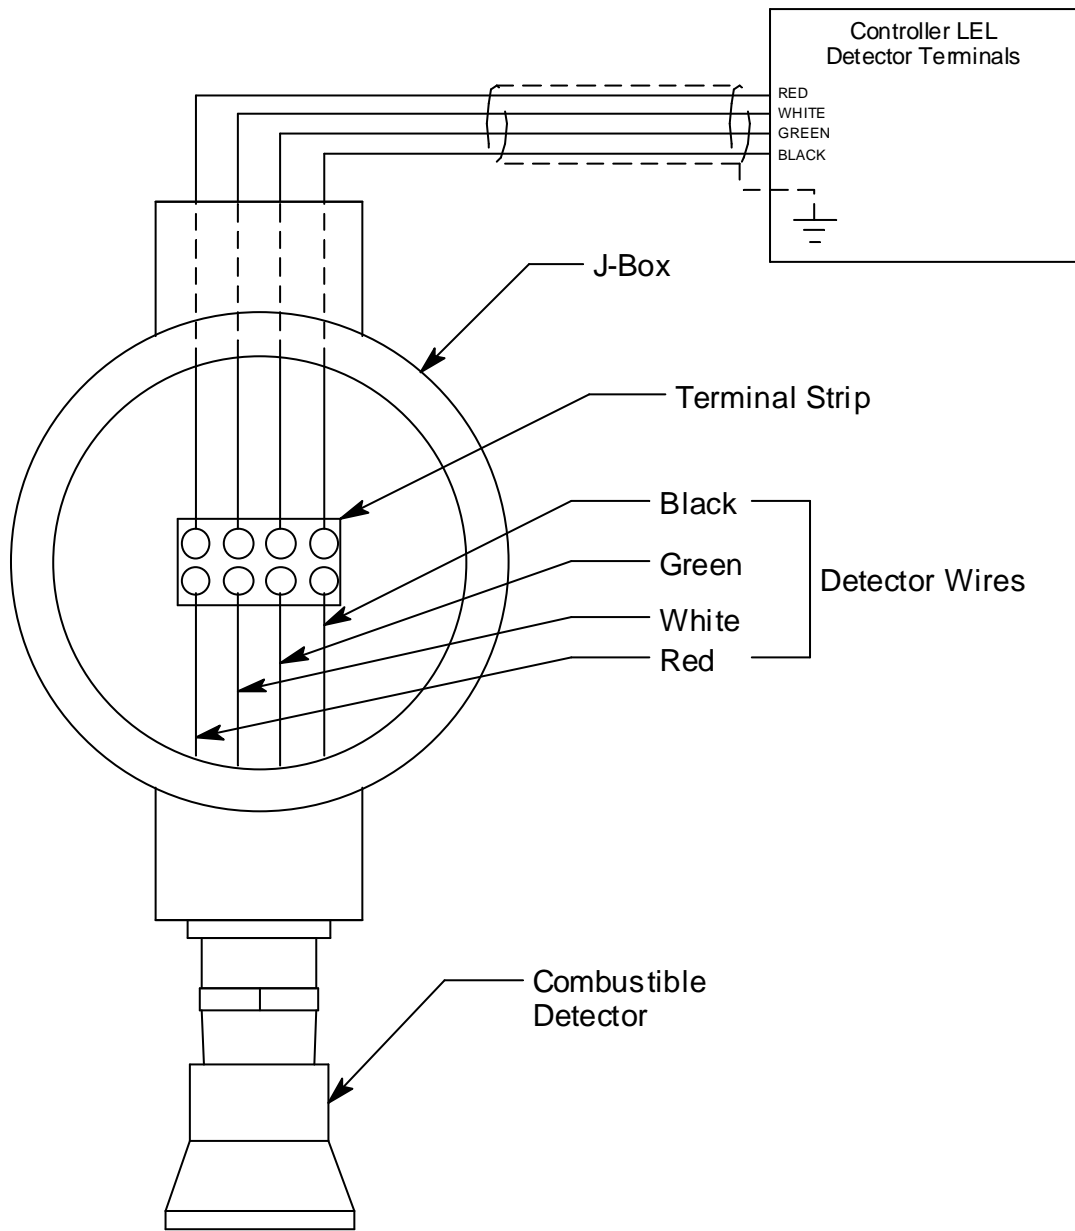

Figure 3: Wiring the Combustible Gas Detector to a Controller
If the detector is mounted directly to a controller, it is normally factory wired. Confirm that the detector's wires are connected to the appropriate controller detector terminals and skip to "Start Up" on page 6. See Figure 3, the controller operator's manual, and the controller's detector head specification sheet for the 61-0140RK detector for the wiring connections.
7. If the detector is installed directly on a controller, connect the detector leads to the appropriate detector terminal strip terminals. See Figure 3 for wiring to a generic controller. See the controller operator's manual and the controller's detector head specification sheet for the 61-0140RK detector for wiring specific to your controller.
If the detector is installed remotely from a controller in a junction box, connect the detector leads to the terminal block the same way the old detector was wired (see Figure 3). See the controller operator's manual and the controller's detector head specification sheet for the 61-1000RK detector to verify the connections to the controller are correct.